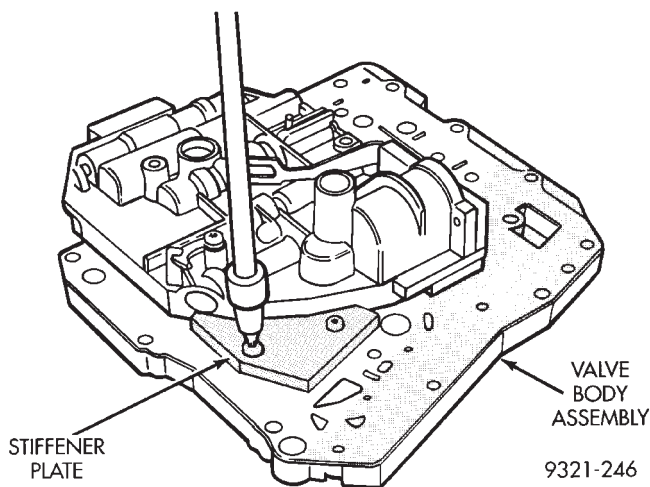

Fig. 62 Stiffener Plate Location
(4) Remove valve body stiffener plate (Fig. 62).